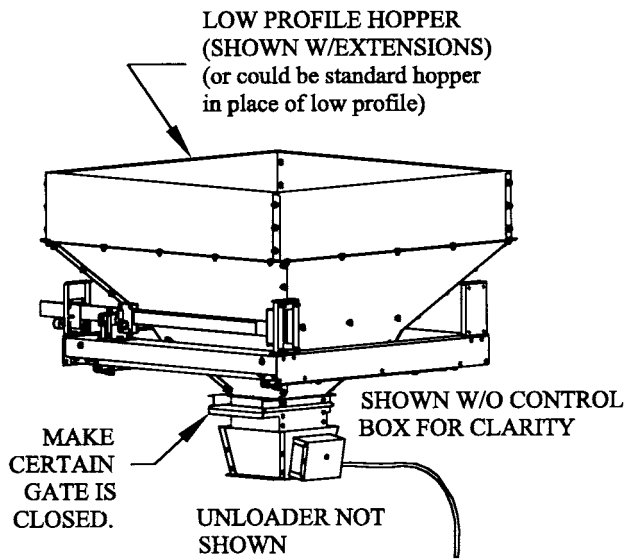

FIG. 1
STEP 1. Make certain gate is closed. See Fig. 1.